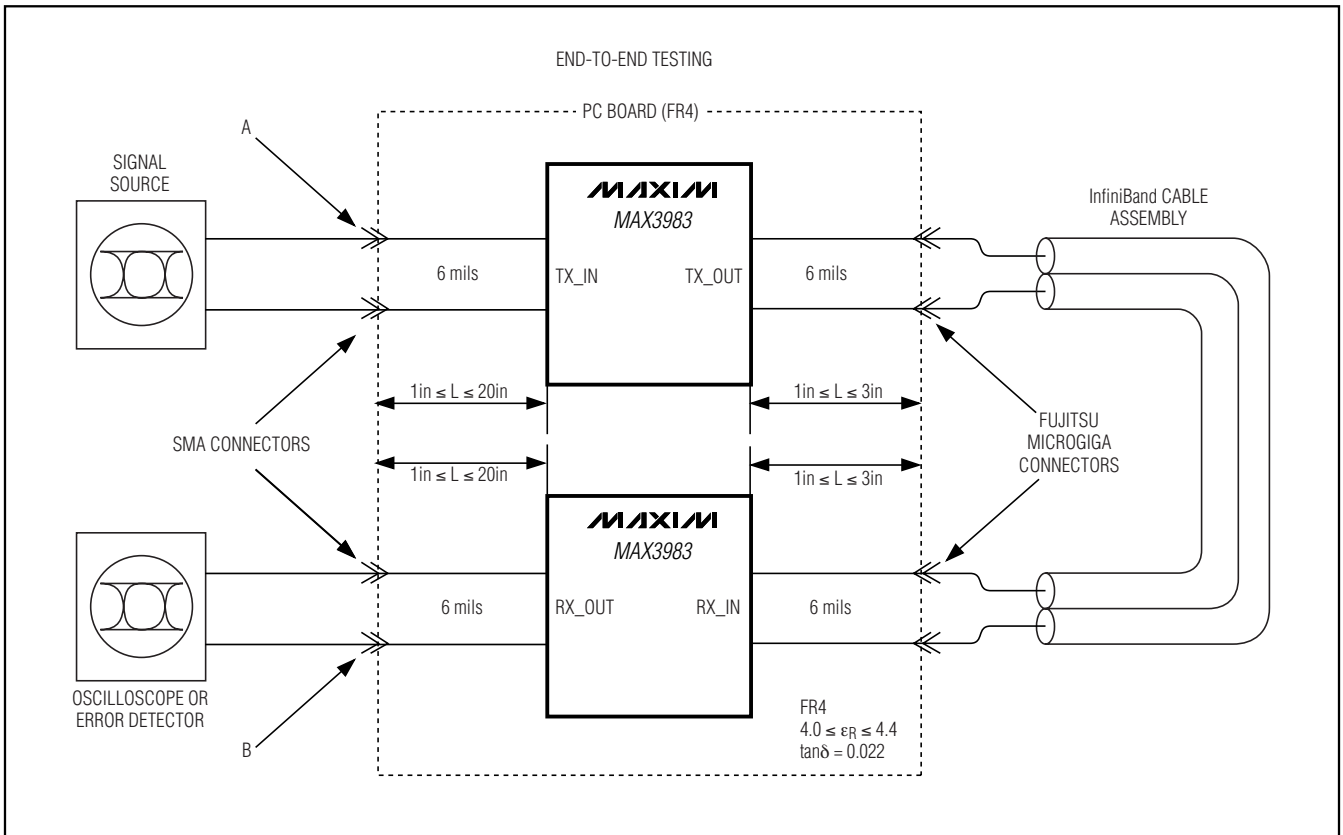

Figure 2. End-to-End Test Setup. The points labeled A and B are referenced for AC parameter test conditions.
Note 13: Cables are unequalized, Amphenol Spectra-Strip 24AWG or equivalent equipped with Fujitsu "MicroGiga" connector or equivalent. Residual deterministic jitter is the difference between the source jitter at point A and the load jitter at point B in Figure 2. The deterministic jitter (DJ) at the output of the transmission line must be from media-induced loss and not from clock-source modulation. Depending upon the system environment, better results can be achieved by selecting different preemphasis levels.